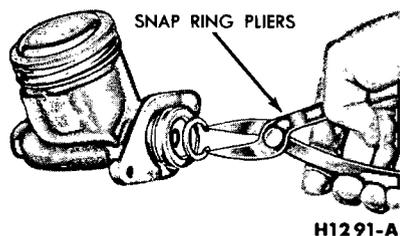

FIG. 32—Removing Snap Ring From Master Cylinder—Typical
2. Remove the snap ring from the bore at the rear of the cylinder with tool 33621 (Fig. 32).
4. Install the snap-ring in the back of the bore (Fig. 32).